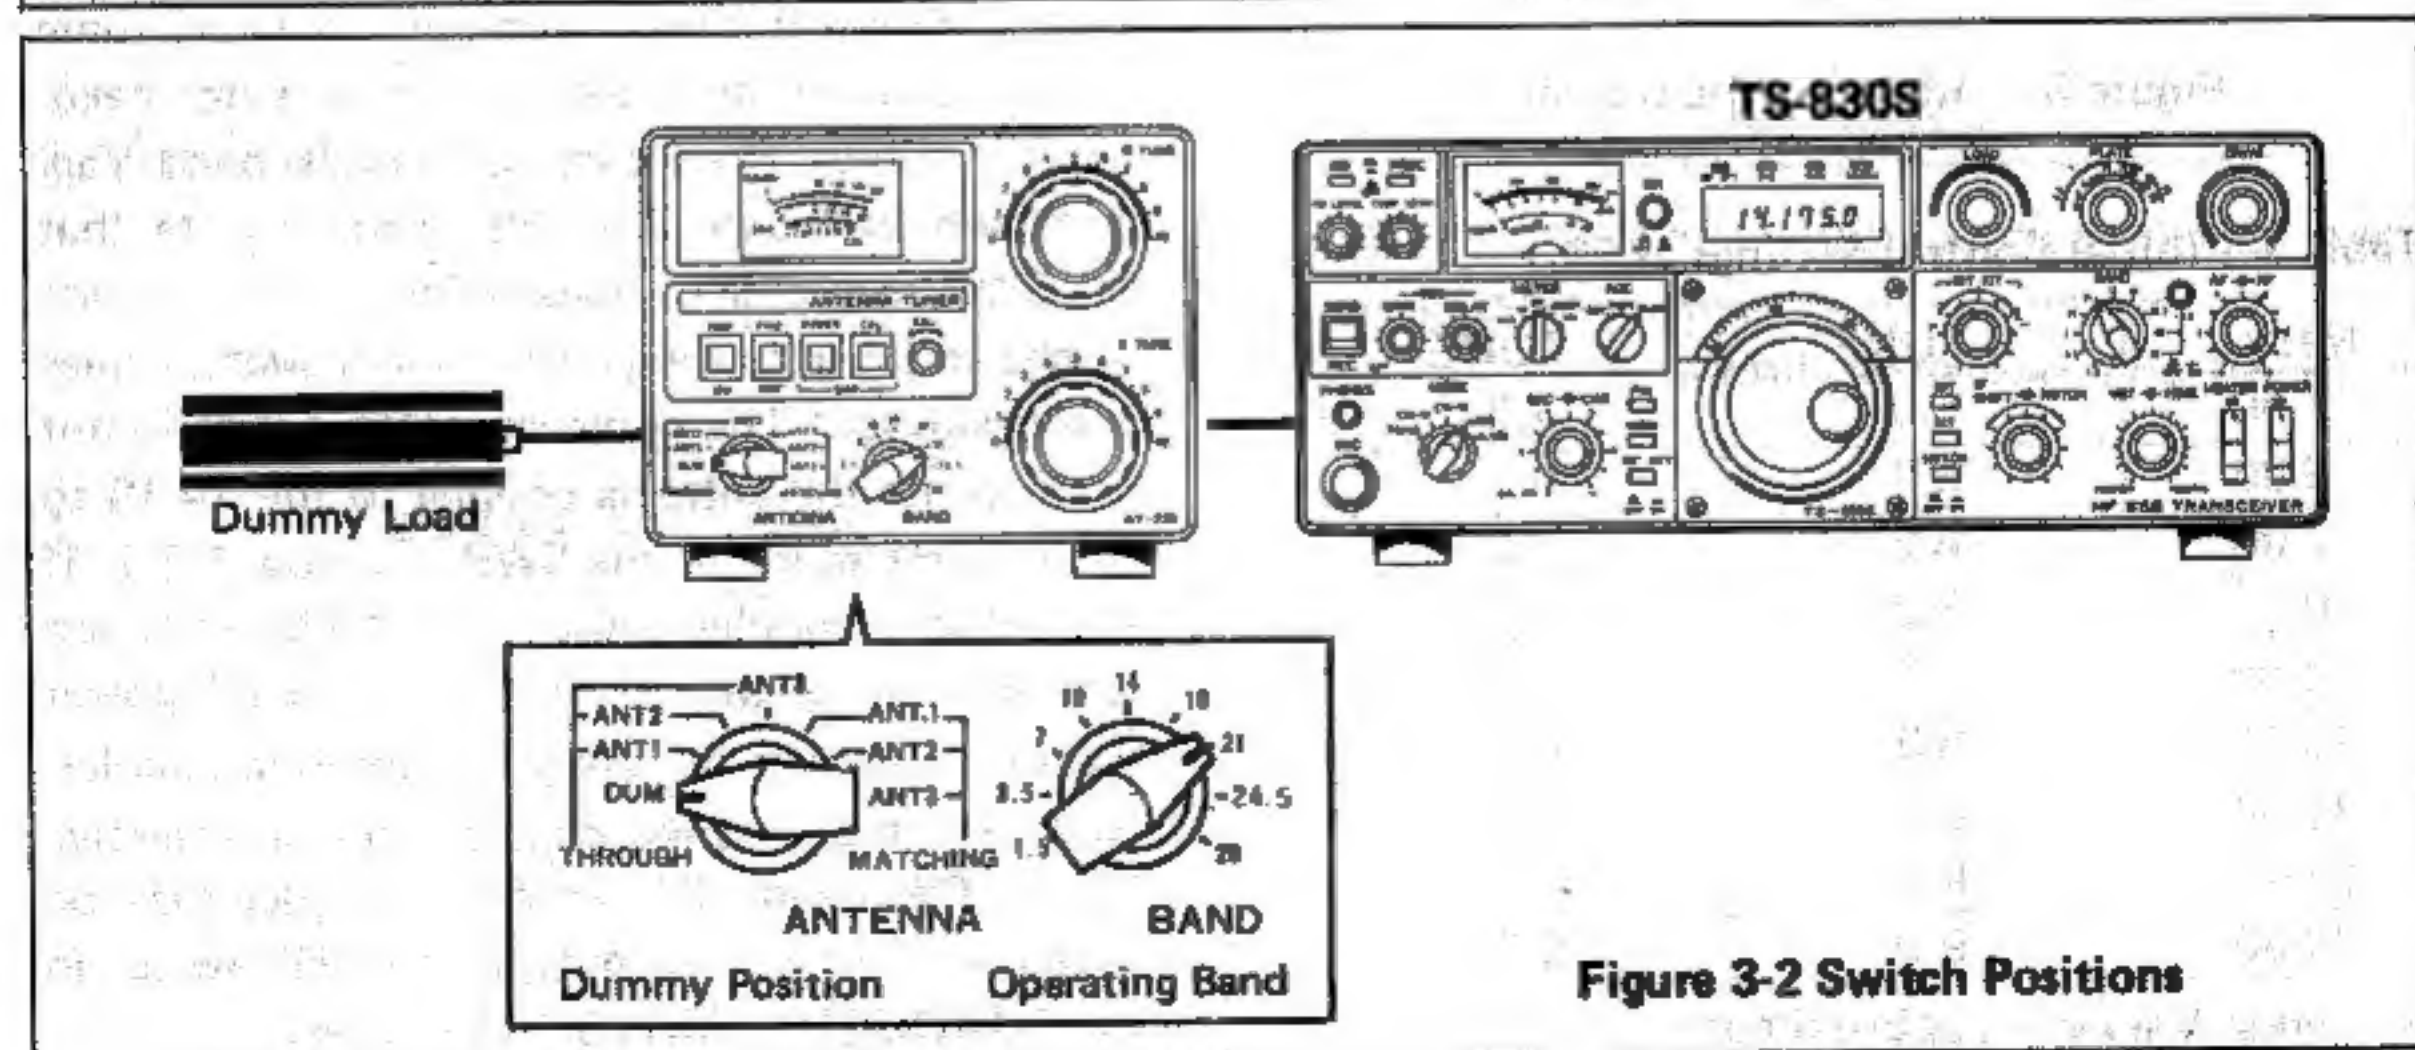

Figure 3-2 Switch Positions
- Set the ANT switch to the DUM position as shown in Figure 3-2.